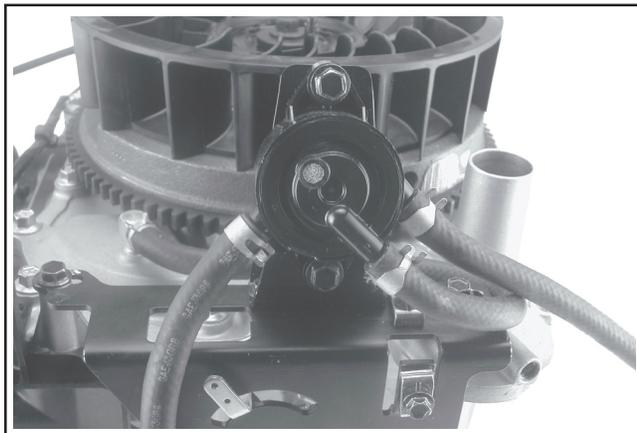

Figure 10-68. Installing Fuel Pump.
3. Connect the pulse and fuel lines to the fuel pump and secure with clamps. See Figure 10-68.